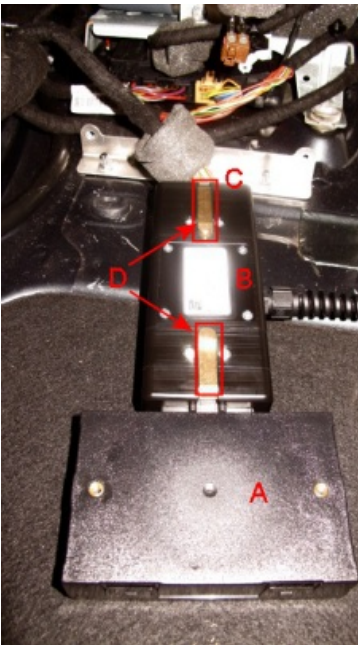

Figure 3
6. Insert boot control module 'A' and its associated plug 'C' into each end of connector 'B' of the boot control module update cable, ensure the connector release mechanism of the boot control module update cable (D) is facing up to avoid unexpected release of the module during software update (see Figure 3)